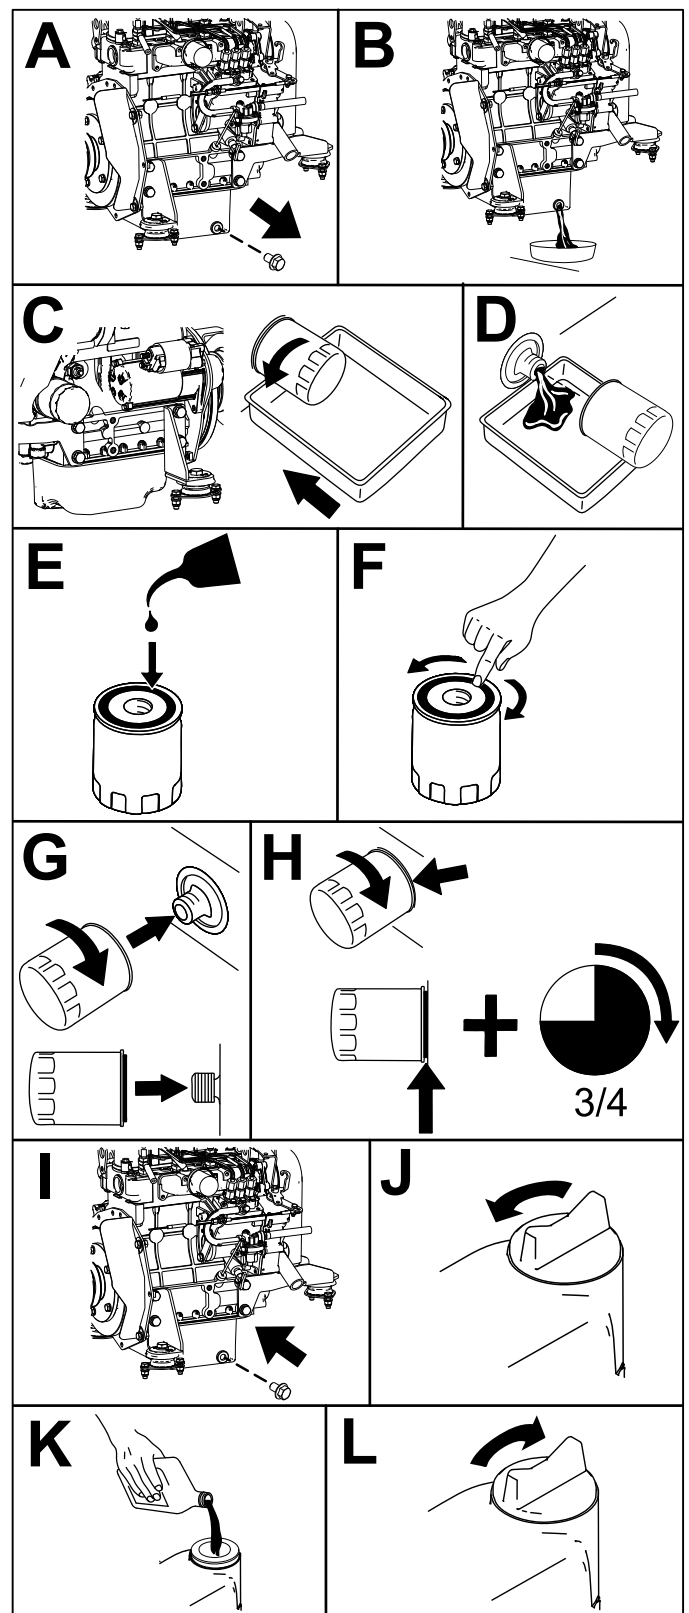

Figure 57
6. Change the engine oil and engine-oil filter as shown in Figure 57.